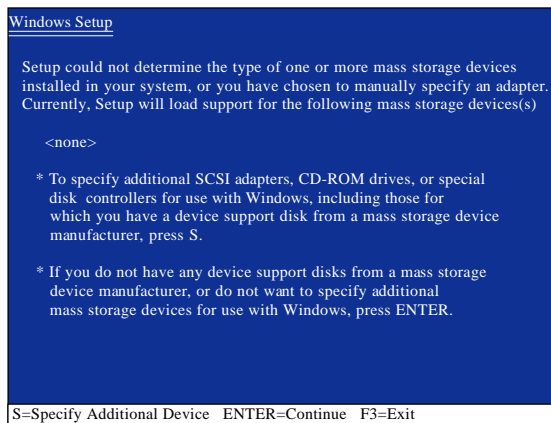

Figure 2
Step 2: When the controller menu (Figure 2) appears, remove the startup disk and insert the blank formatted disk. Select the controller driver by pressing the corresponding letter from the menu. For example, from the menu in Figure 2:
Use an alternative system and insert the motherboard driver disk. From your optical drive folder, double click the **MENU.exe** file in the **BootDrv** folder (Figure 3). A command prompt window will open similar to that in Figure 2.
When a screen similar to that below appears, insert the floppy disk containing the SATA RAID/AHCI driver and press <S> (Figure 2).